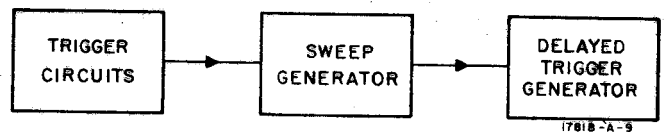

Figure 5-1. Functional Block Diagram
5-9. The procedure for troubleshooting the Model 1781B is divided into two categories: (1) overall or system troubleshooting and (2) sectional troubleshooting. For the purpose of system troubleshooting, the Model 1781B is considered to be a system; the oscilloscope is not included. The Model 1781B is divided into the three sections shown in figure 5-1. System troubleshooting procedures (see paragraph 5-10) isolate troubles to one of the sections, and sectional troubleshooting procedures (see paragraph 5-12) isolate troubles within the section.